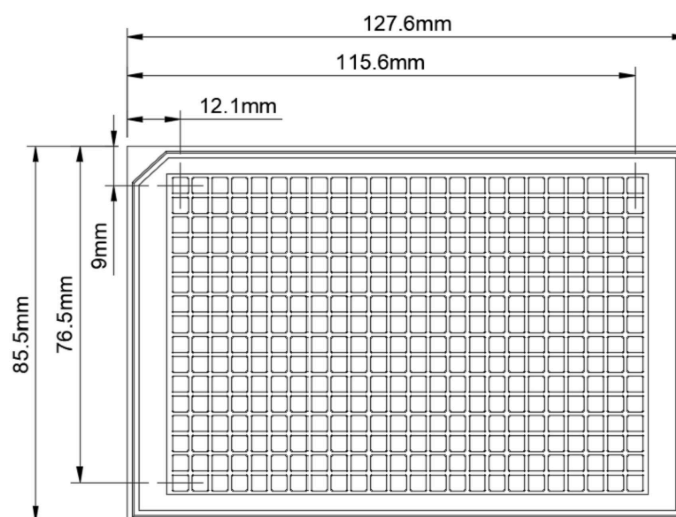

Figure 2. Corning spheroid microplate 4516 overhead dimensions
1. Ensure the automated system has the correct plate dimensions for the Corning® Spheroid Microplate (Catalog Number 4516, Figure 2 below).